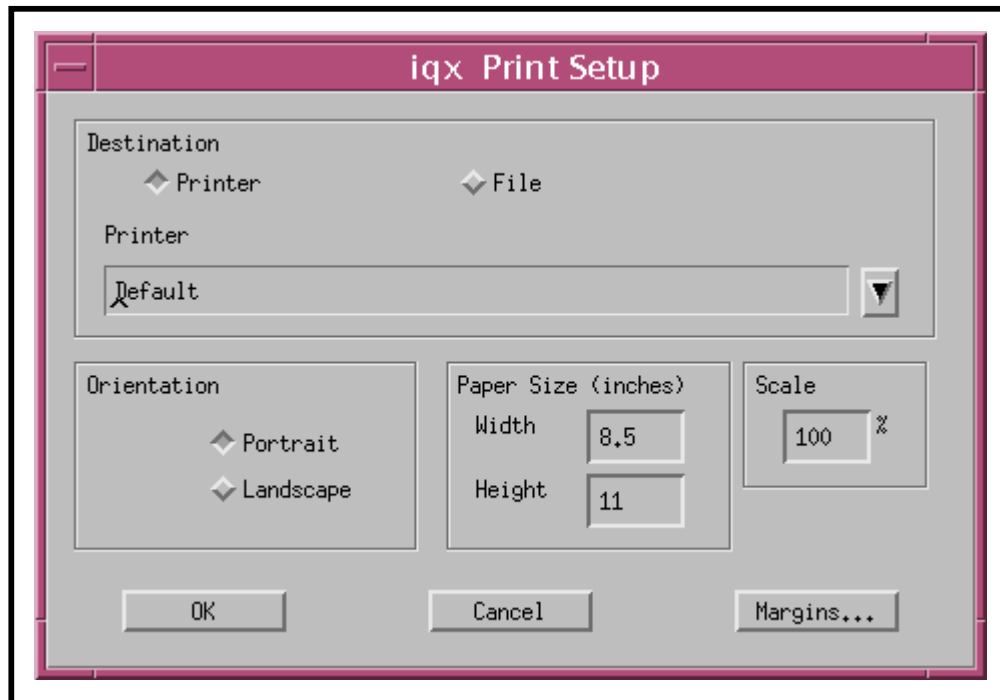

Figure 26.22.1-11. iqx Print Setup GUI
- The **iqx Print Setup** GUI (Figure 26.22.1- 11) is dismissed.
- The **iqx Execute to Printer** GUI (Figure 26.22.1-9) is displayed.